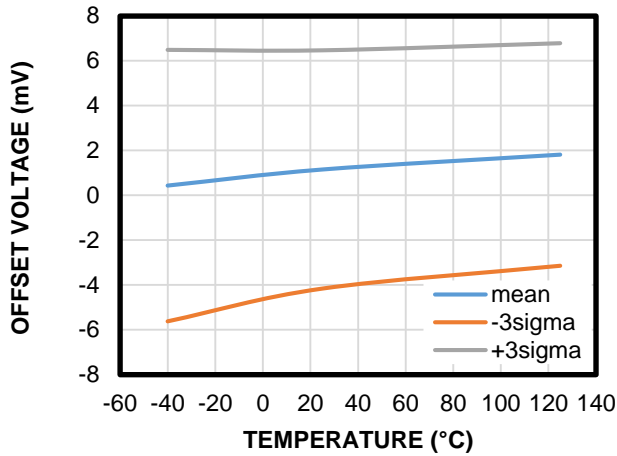

**Figure 1: Total Resistance**
10) The resistance is defined as the total resistance measured from a point of the lead next to the solder joint, assuming that the two  $I_P+$  pins (and  $I_P-$  pins) have the same potential (see Figure 1). This definition corresponds to the effect resistance used to estimate the joule heating, calculated with  $R \times I_P^2$ .